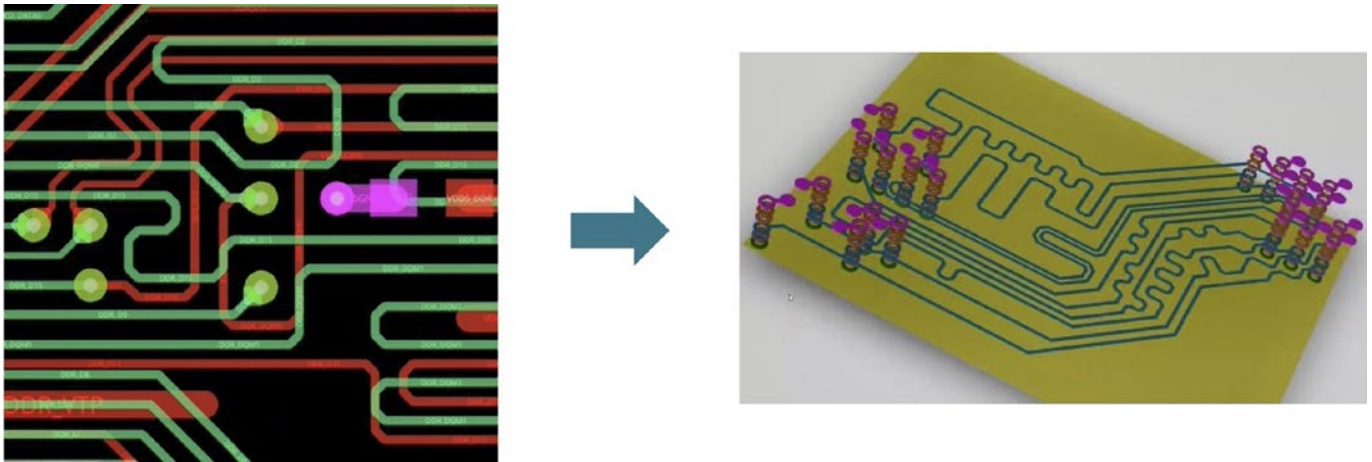

Figure 5: Return path for signal vias.
On the left side of Figure 5, the green lines are data line (DQ) signal vias and the pink area is the ground (GND) via, which is stitching two ground planes together. On the right, one of these signals has a trace on the green top layer and the second line is going to be the reference with an ideal return path.